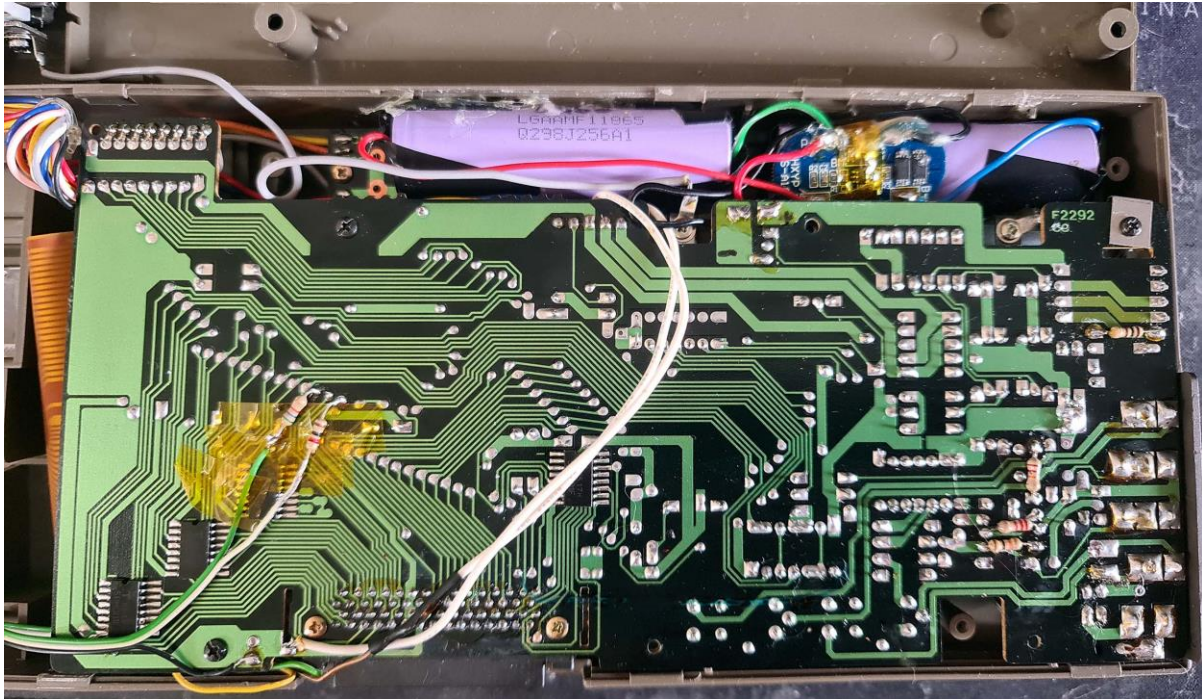

Fig. 4 Inside the CE-150 printer/cassette interface: cable and resistors soldered to the PCB
1. Now open the CE-150 (first remove the PC-1500 and disconnect the AC adapter). Undo the 8 screws on the back of the case, then gently prise the two halves apart at the joint; they separate easily. Inside you will see the CE-150 board (Fig. 4), which you can clean if necessary. It is also worth replacing the old, probably worn-out NiCd battery pack with a pack of two 18650 Li-ion cells, which must have a 2S BMS protection board (as shown, see Fig. 4).